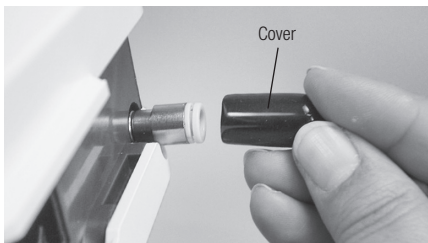

Fig.5
- 1) Remove the Cover from the Tap Water Connector. (Fig. 5)